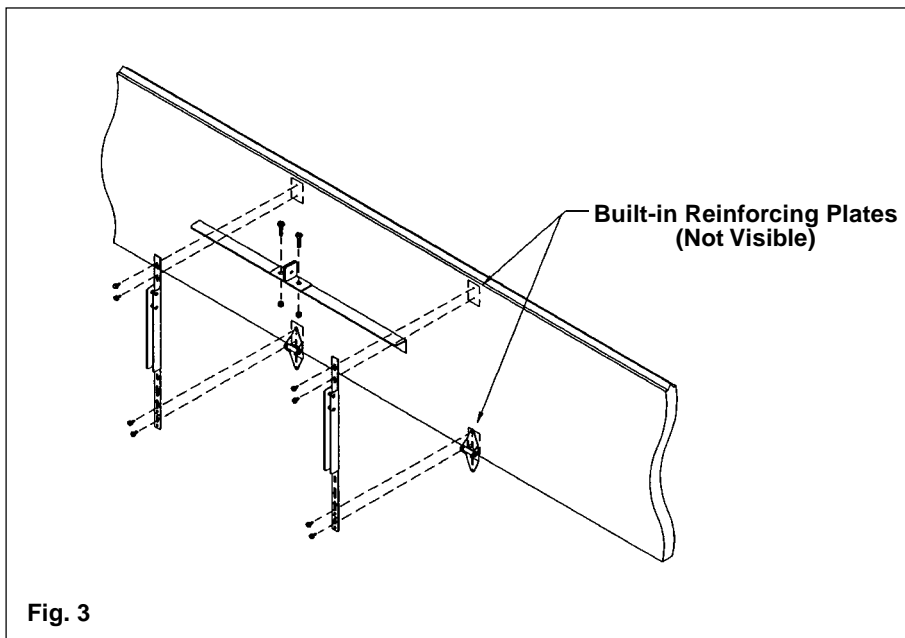

Fig. 3
Torsion spring doors (Fig. 3)
A) Install opener arm to one of the operator reinforcement brackets. It is necessary to mount the operator off center of the door, to align with the operator reinforcement bracket. **OR B)** Install opener arm to the horizontal angle using the bracket provided with the operator or cut (2) 1" pieces of punched angle and mount on horizontal angle. (See Figures 3 & 6A for an example)
(Fig. 3) Install opener arm to the horizontal angle using the bracket provided with the operator or cut (2) 1" pieces of punched angle and mount on horizontal angle. (See Figures 3 & 6A for an example)